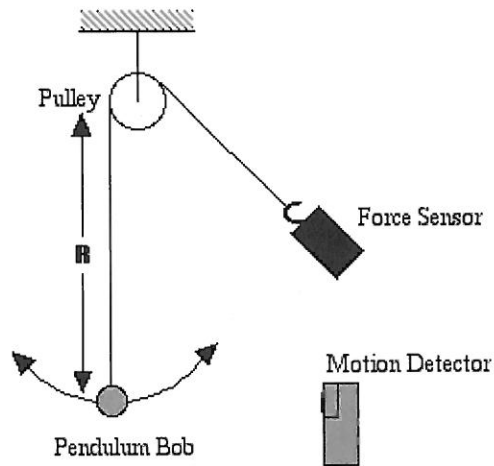

Figure 2.
1. Set up the physical arrangement shown above in Figure 2. If you use older (blue) motion detectors, be sure to set the lowest point of the pendulum's motion outside the 50-cm minimum distance. Clamping the force sensor to a ring stand will help maintain a constant radius as well as provide a consistent angle during the data run.
3. Calibrate the force sensor in the position that it will be used. If you are using it as shown, hold it with nothing attached and record it as zero (0) force. Then hang a 500-gram mass on the string going over the pulley and record it's force as 4.9 N. Use the Calibrate routine under Experiment in Logger Pro.